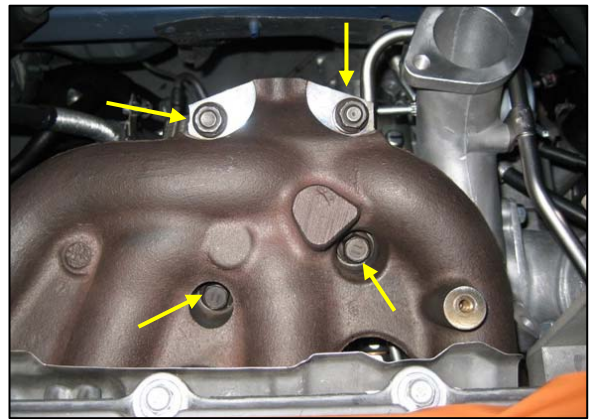

Fig. 23
26. From above the turbocharger, remove the 2 bolts and 2 nuts securing the turbine housing to the exhaust manifold. These fasteners may need to be sprayed with penetrating oil prior to loosening. Carefully lower the turbocharger as these fasteners are removed, being sure that the turbocharger does not damage any other components in the engine compartment. It can temporarily rest on the transfer case. The 2 bolts can be reused. New bolts are supplied with the kit to replace the studs (the old studs may strip if removed from the turbine housing). Reuse all 8 washers. Inspect turbine inlet gasket and replace if any signs of leakage are present (2 bolts, 2 nuts, 14mm socket). See *Fig. 23*